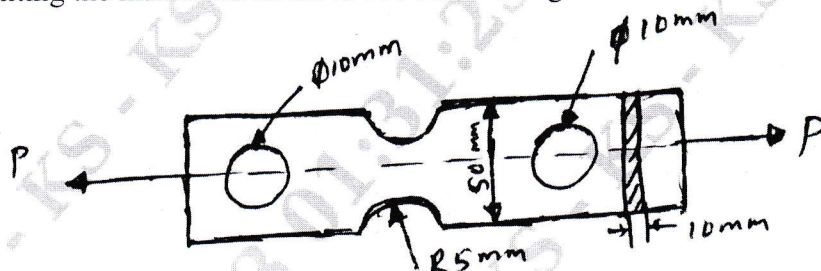

Fig.Q2(b)
b. Determine the safe load that can be carried by a rectangular bar of cross section as shown in Fig.Q2(b) limiting the maximum stress to 130 MPa taking stress concentration into account. (10 Marks)